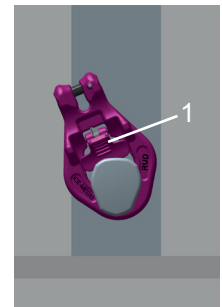

Fig. 5: IMEG hooked into bitt
1. Open the securing flap (1) of the skip container single suspension link and hang it into the bitt. The securing flap closes automatically (Fig. 5). Flap must be closed behind the face of the bitt.